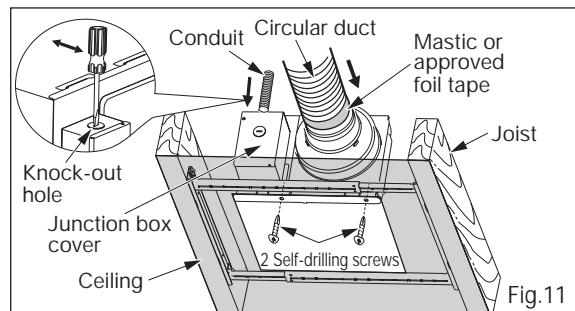

Fig.11
3. Install the adaptor to Flex-Z Fast™ bracket by using 2 self-drilling screws. (Fig.11)